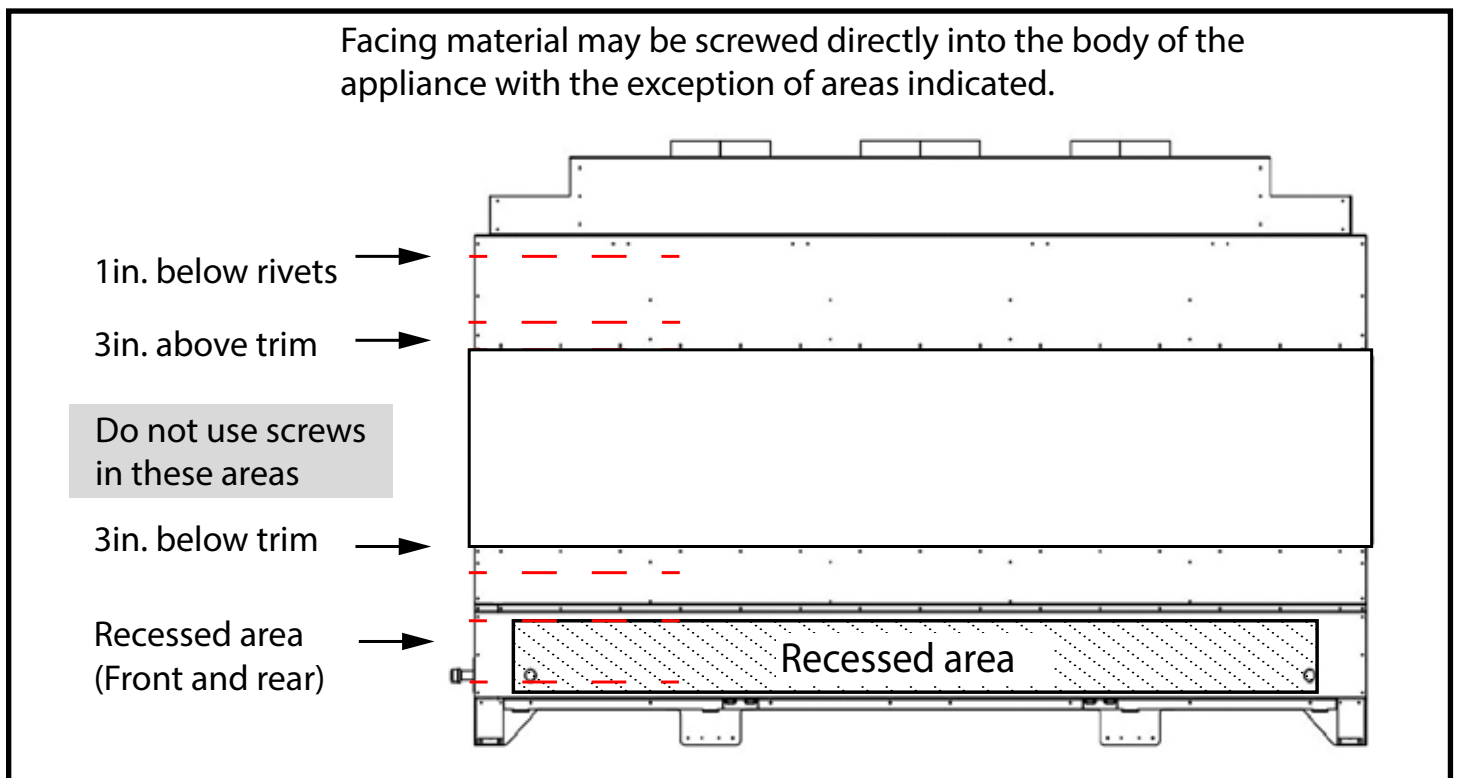

Figure 6: Facing attachment area for Top Intake models.
2. Facing material can be secured directly to the front and sides of the unit except in the areas indicated in this example in Figure 6. Each model will have its own specific areas in which screws must not be driven into.